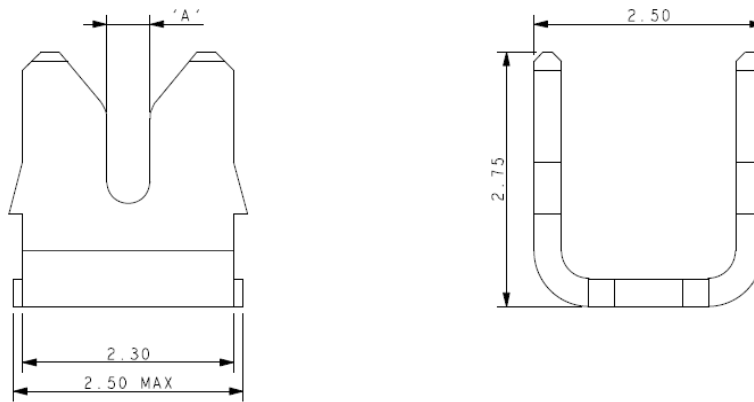

Figure 14. AVX Series 9176-400 IDC Connector.
2. For connector detail, refer to Figure 14.
## Notes for Figure 14: